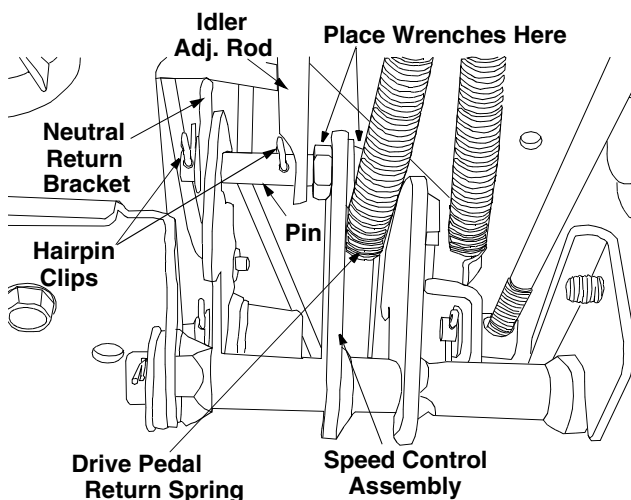

Figure 20
- Locate the speed control assembly on the underside of the steering support bracket. See Figure 20.
- Remove both hairpin clips from the pin which is fastened to the speed control assembly (be careful not to lose the small flat washers found on the pin). See Figure 20.
- Using two 9/16" wrenches, remove the pin from the speed control assembly. See Figure 20.